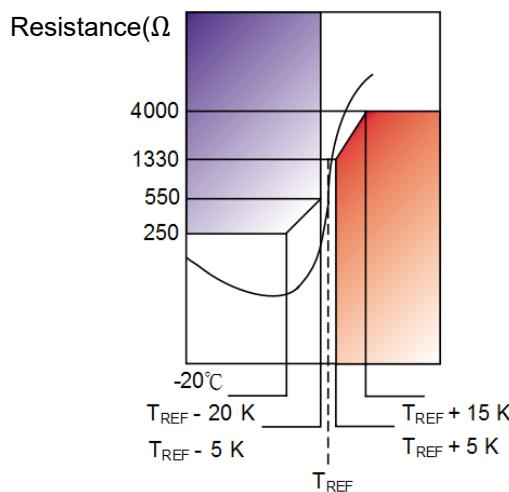

Figure 5.2.28 Relationship between PTC temperature and resistance
PTC100 and PTC120(130) are thermistors. Their output resistance changes according to coil temperature. Resistance of PTC100 rises drastically when  $T_{\text{REF}}=100^\circ\text{C}$ , while resistance of PTC120(130) rises drastically when  $T_{\text{REF}}=120(130)^\circ\text{C}$ . Their features are given in Table 5.2.9 and Figure 5.2.28.
To protect the motor windings against thermal damage, every motor is equipped with a triple positive temperature coefficient (PTC) sensor, type SNM120/130 (in accordance with DIN 44082-M180). Since the degree of heating of the individual motor phases can be very different, a PTC sensor is fitted in each phase winding (U, V and W). Each PTC element has a “Quasi-switching” characteristic, i.e. the resistance suddenly increases close to the rated temperature (switching threshold, Figure 5.2.28). Due to its low heat capacity and good thermal contact with the motor winding, the PTC reacts very quickly to a rise in temperature and, in conjunction with additional protective mechanisms on the control side, ensures reliable motor protection against overload. The PTC elements located in every phase winding in HIWIN motors are wired in series; they connect via two wires. With TMRW/TM-5/IM-2 there is an additional temperature circuit with positive temperature coefficient (PTC), type PTC 100, for redundant use or to distinguish between warning and danger temperatures.